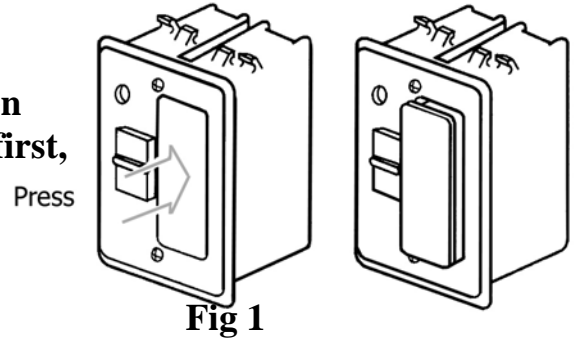

Fig 1
1. Make sure the slide switch on the Remote Receiver is at OFF position. See Figure 1.
2. Press the battery compartment slightly into the Remote Receiver and then release. The battery compartment will pop out of the Remote Receiver. Figure 1.